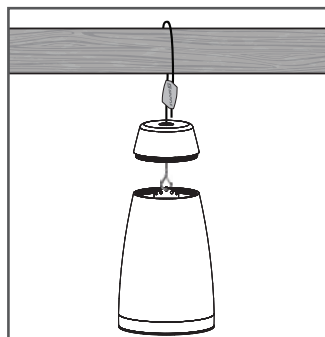

FIGURE 7: MAIN SUPPORT
4. With speaker supported, snap main support hook hanger onto the center hole in the top bracket of the speaker. Adjust to proper height by pulling down on the cable through either end of Gripple. (See figure 7).